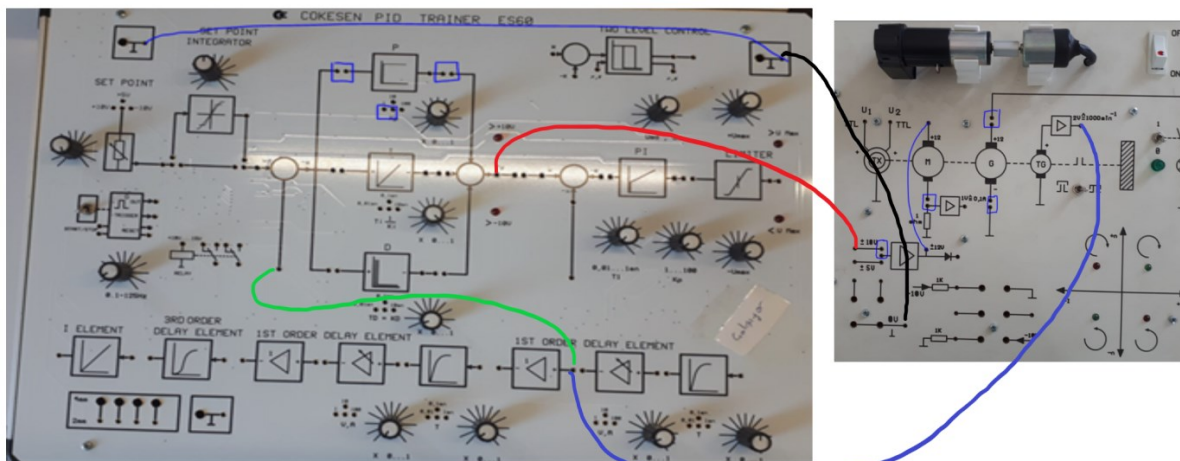

Figure 10: the connections between the control-board and the motor-board
- 5) Using the jumper-wires do the connections between the control board and the motor-board that are depicted in Figure 10.